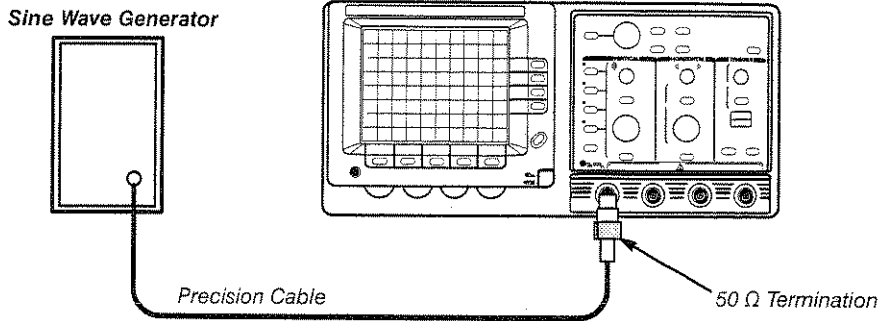

Figure 6-8: Bandwidth Test Setup
- Connect the output of the sine wave generator to the channel to be verified as shown in Figure 6-8.